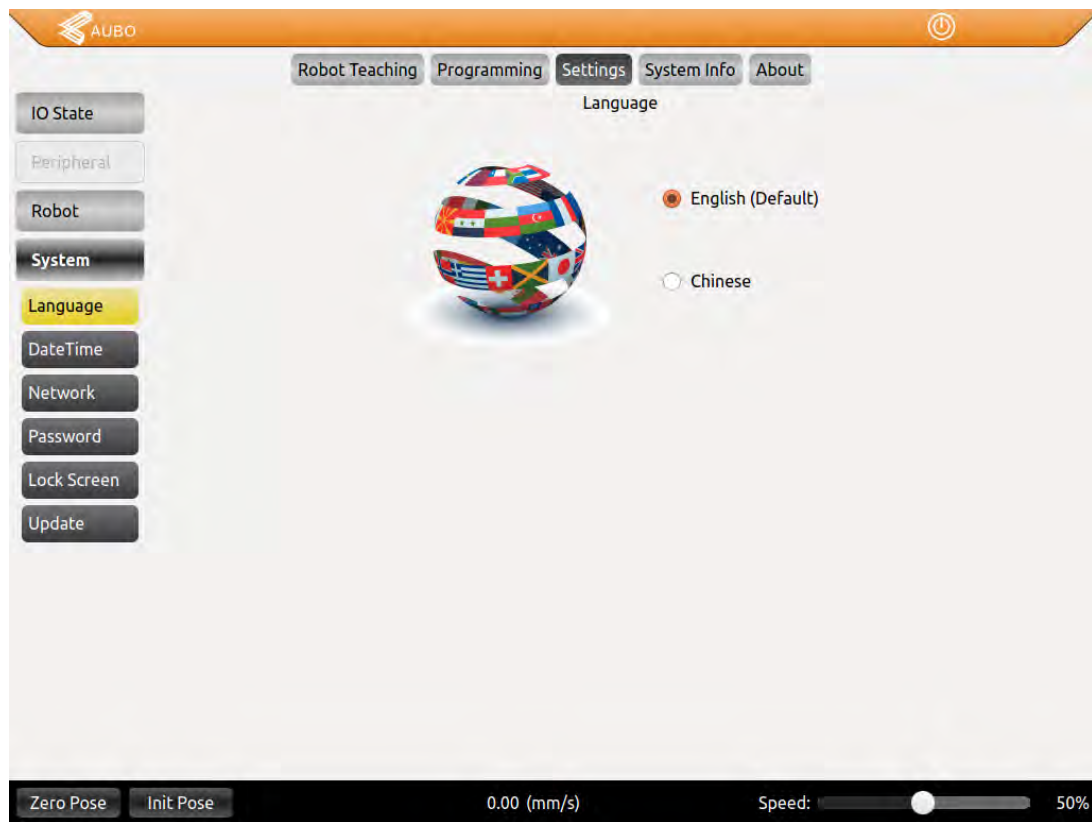

Figure 10.25 Language Tab
- 1 Steps of updating software: Insert an USB memory device and click **【Scan software】** as shown in Figure 10.25(a). Click the name of updated software and click **【Update】** . Then the system will reboot to finish update.